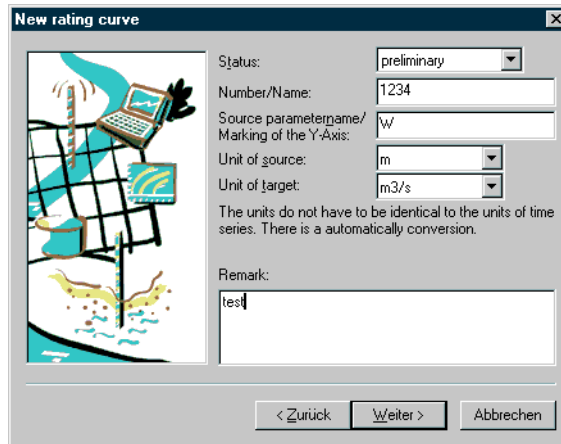

Fig. 203 Wizard: Step 2
- Accept the standard proposals for source parameter and units. Remarks are optional (cf. Fig. 203, page 300).